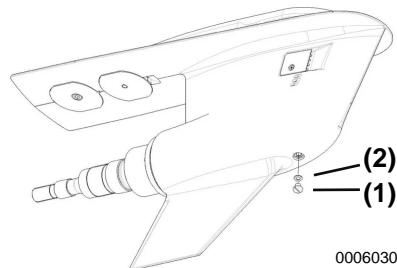

Figure 13
5. Remove the oil fill / drain plug and gasket (**Figure 13**).